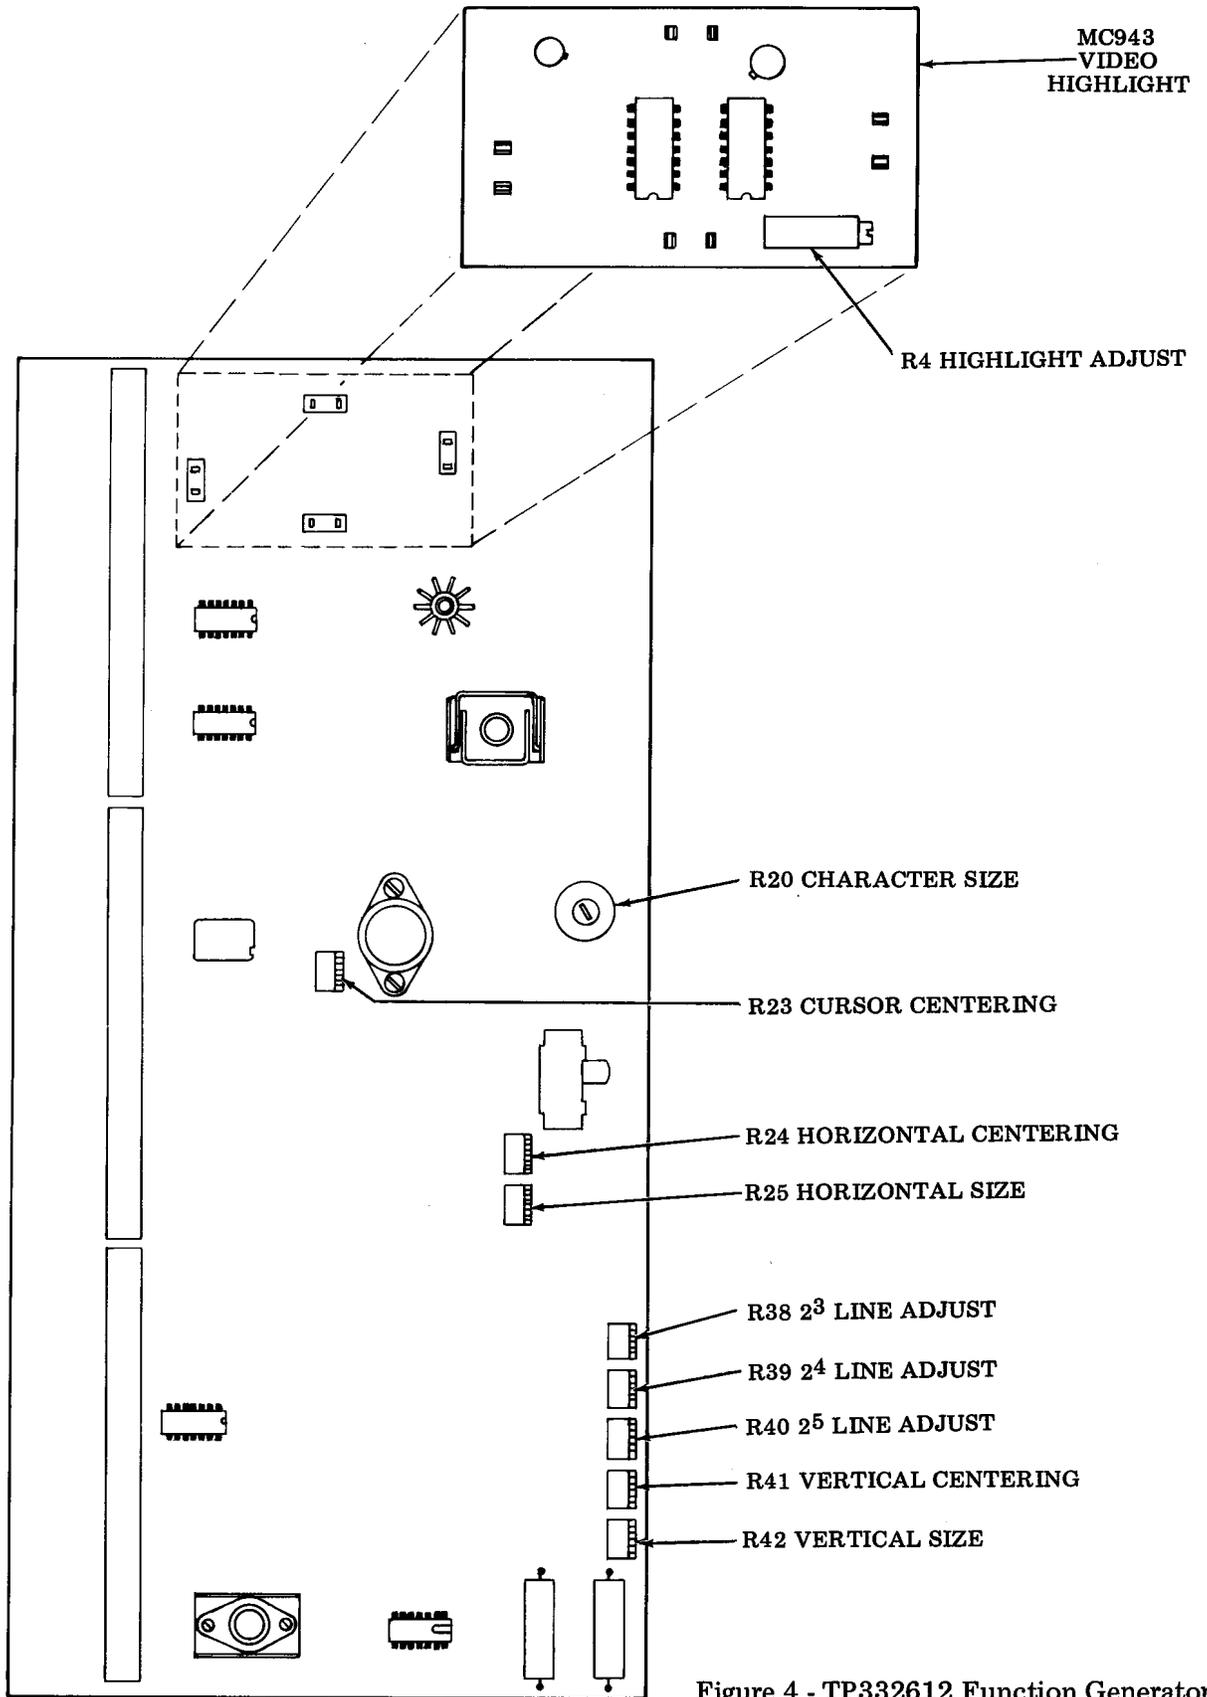

Figure 4 - TP332612 Function Generator
2.15 Character Size (Figure 4)
2.16 Line Spacing (Figure 4)
2.17 Cursor Centering (Figure 4)
## 2.18 Highlight (Figure 4)